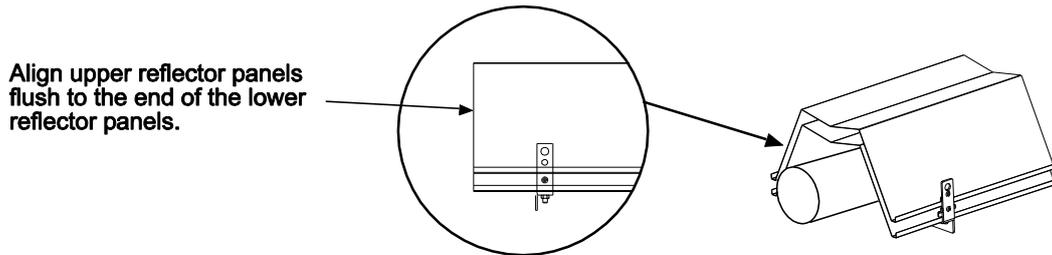

Fig. 22h
10. Place the **upper reflector panels** over each of the reflector spacer brackets. Repeat the same reflector positions and overlap dimensions as specified in table 16, see step 9 above. To align reflectors precisely to the ends of the lower reflector, hold the end cap in place against the lower reflector slide the upper reflector to rest against it. See figure 22h below.